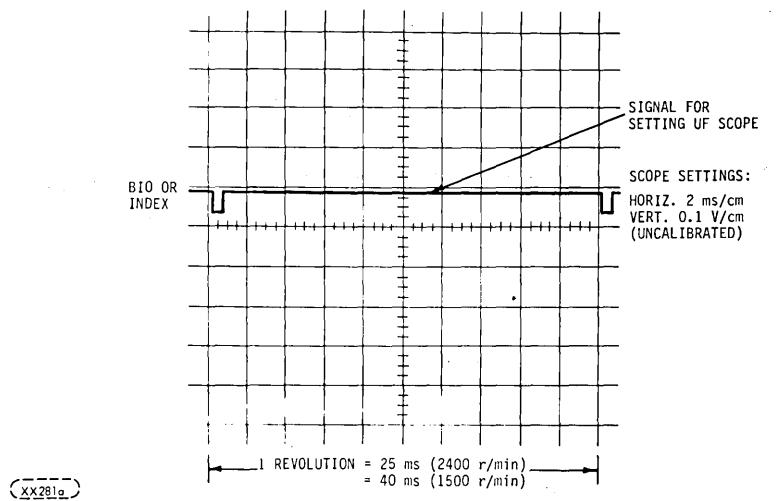

FIGURE LE7-1. HEAD ALIGNMENT SCOPE SETTING
21. Also monitor this signal and set up oscilloscope to indicate one complete revolution. Horizontal setting will be 2 ms/cm uncalibrated (see Figure LE7-1, see Lab #7).